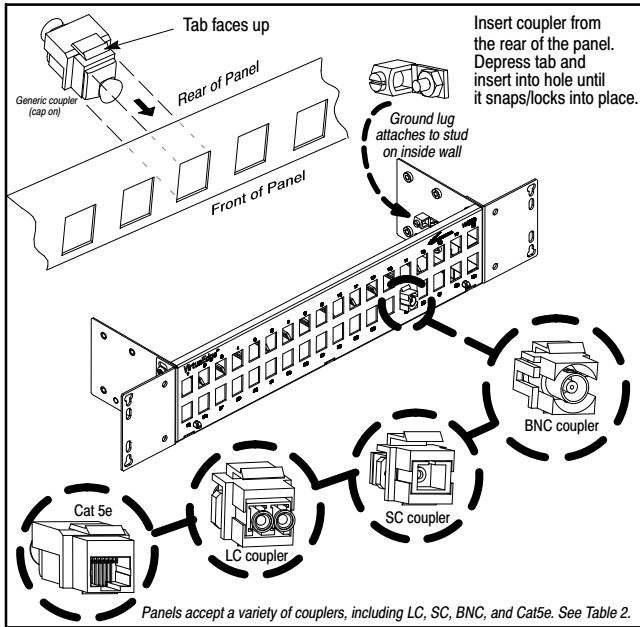

Figure 4. Inserting Couplers into VE-3600 Panels
2.4.1 The Westell VE panels are shipped from the factory with a ground lug capable of accepting #6-14 ground wire for wall-mount applications. The installer should locate the ground lug and hex-nut from the bag of parts shipped with the panel and install the lug on the post located on the inside wall of the panel, securing the ground lug to the threaded post with the nut (see Figure 4). The installer makes the ground connection to the ground lug using a #6-14 ground wire (per company practice)
The VE-3600 panel comes without couplers installed in the panel (the positions are empty, as shown in Figure 4), to allow the technician to install the coupler(s) of choice, depending on the application or service desired. Follow the steps below to insert the coupler(s) of choice.
coupler has a top tab (similar to a phone plug) and a front and rear connector of identical service type and gender. The coupler should be inserted from the rear of the panel, with the top tab facing up (see Figure 4). Angle the top tabbed surface slightly downward (so it is sure to enter and fit into the hole) and gently depress the top tab while firmly inserting the coupler into the hole. When properly inserted, the coupler snaps into place (tab catches on top of hole) for a firm fit.